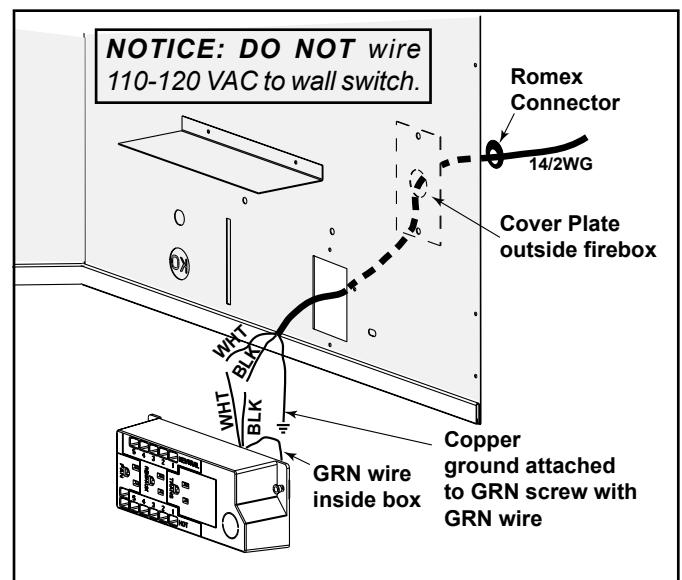

Figure 9.1 Junction Box Detail
- Remove the screw attaching the junction box/receptacle to the outer shell, rotate the junction box inward to disengage it from the outer shell (see Figure 9.1).
- Pull the electrical wires from outside the appliance through the opening into the valve compartment and secure wires with a Romex connector. See Figure 9.1.